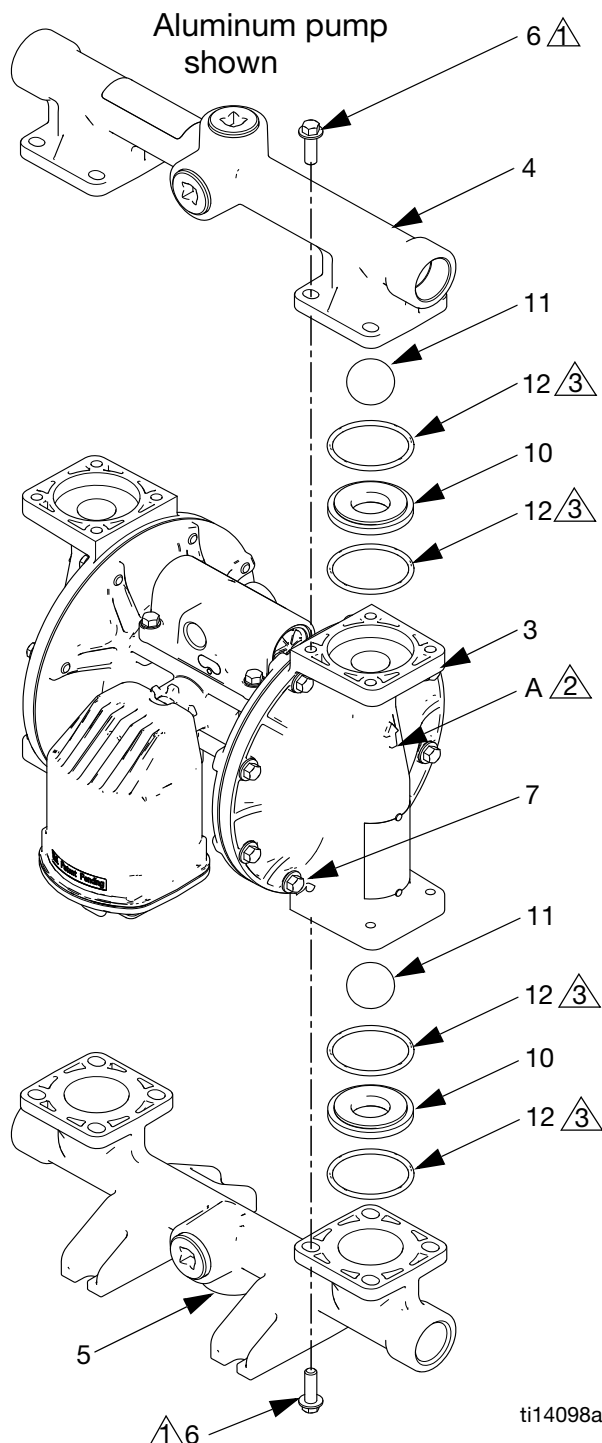

FIG. 7. Ball check valve assembly
3. Use a 10 mm socket wrench to remove the outlet manifold fasteners (6). See FIG. 7.
4. Remove the o-rings (12, *not used on some models*), seats (10), and balls (11).
5. Turn the pump over and remove the inlet manifold. Remove the o-rings (12, *not used on some models*), seats (10), and balls (11).
2. Reassemble in the reverse order, following all notes in FIG. 7. Be sure the ball checks (10-12) and manifolds (4, 5) are assembled **exactly** as shown. The arrows (A) on the fluid covers **must** point toward the outlet manifold (4).